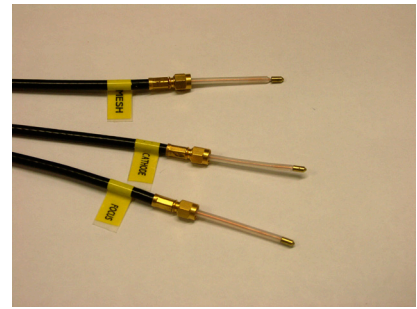

Figure 10 Focus leads. When removing pull gently and carefully
- 4 Focusing high voltage leads. There are three leads, cathode, mesh and focus. The ends that fit into the streak tube should be treated carefully. Each has a brass contact soldered onto its end, see Figure 10 on page 17. This engages in a spring loaded contact in the clamp box. The leads use SMA clamping screws to hold them in place. If removing these leads **do not pull hard**, undo the SMA nuts and slowly remove the lead. If it catches wriggle it rather than pulling hard.